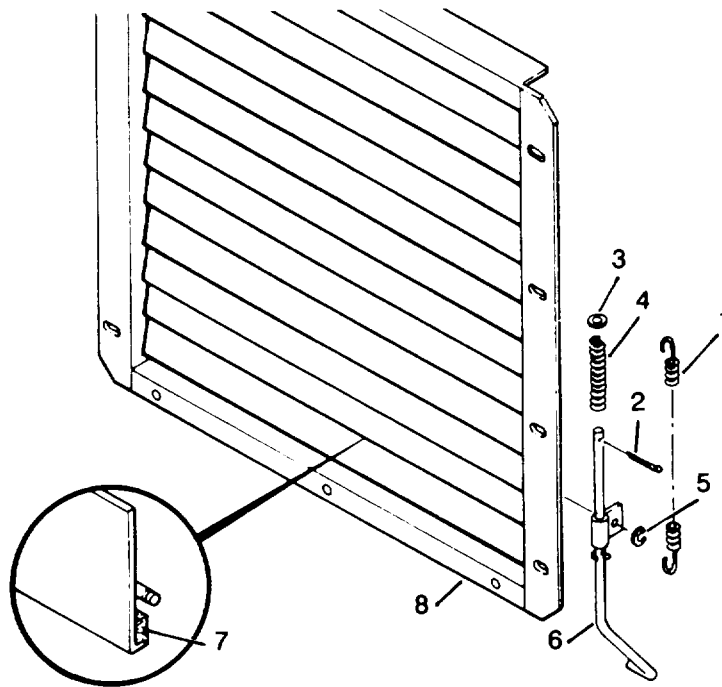

Figure 3-27. Shutter Assembly, Exploded View
(1) Remove spring (1, figure 3-27).
(2) Remove cotter pin (2) to remove retainer (3) and spring (4).
(3) Remove retainer (5) to remove control lever(6).
(4) Remove any damaged or deteriorated seals (7) from vanes of shutter (8).
- (1) Position Shutter (8, figure 3-27) to install new seal (7).
- (2) Install control lever (6) and retainer(5).
- (3) Install spring (4), retainer (3) and cotter pin (2).
- (4) Install spring (1).